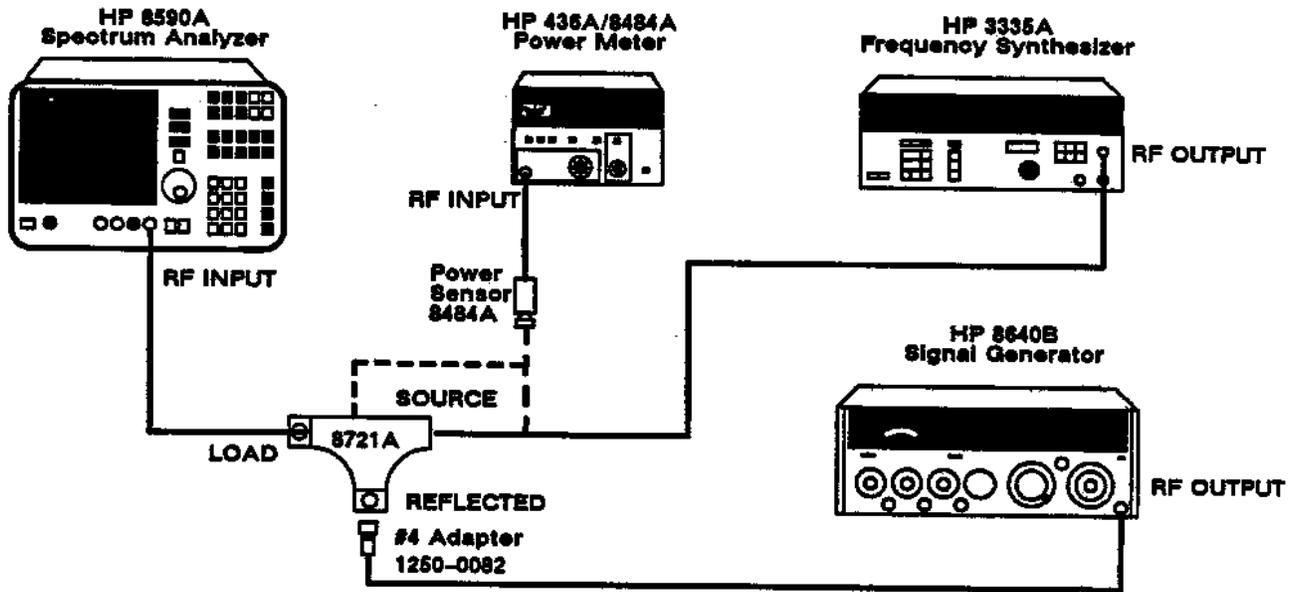

Figure 1-9. Gain Compression Test Setup
1. Set the signal generator to output a 100-MHz, CW signal. Connect the signal generator to the REFLECTED power connector of the directional bridge, as shown in Figure 1-9. Use the power meter or power sensor to set the signal generator output level to 0 dBm, measured at the LOAD connector of the directional bridge. Temporarily disconnect the signal generator from the directional bridge. Terminate the REFLECTED port with a 50-ohm load.
2. Set the synthesizer to output an 80-MHz, CW signal. Connect the BNC cable to the synthesizer RF output. Use a power meter and power sensor to set the synthesizer output level to -24 dBm at the free end of the BNC cable. Connect the synthesizer to the SOURCE connector of the directional bridge, as shown in Figure 1-9.
3. Connect the analyzer to the LOAD connector of the directional bridge, as shown in Figure 1-9. If your analyzer has Option 001 (75-ohm RF input), connect the 75-ohm side of the minimum loss adapter to the 75-ohm cable, connect the other end of the 75-ohm cable to the RF input of the analyzer, and connect the 50-ohm cable from the directional bridge to the 50-ohm side of the minimum loss adapter.